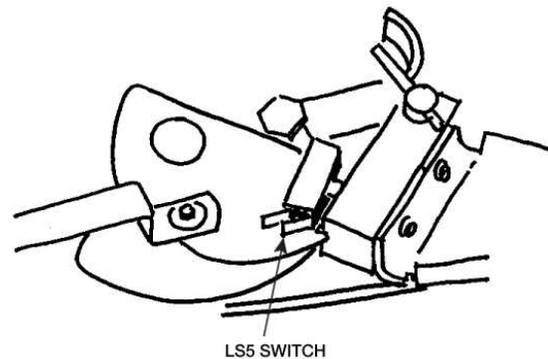

Figure 9
7. **LS5 Adjustment (If Equipped):** Slowly operate the emergency handle from its normal position to its fully displaced position. Check that LS5 does not make contact with the lock pawl until the lock pawl falls into the Emergency cam notch. See Figure 9.